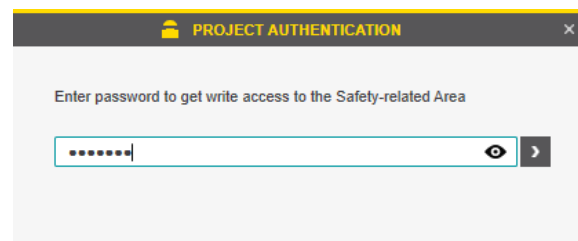

Figure 4-18 Entering the project password
- Enter the project password in the “PROJECT AUTHENTICATION” dialog (see Figure 4-18).